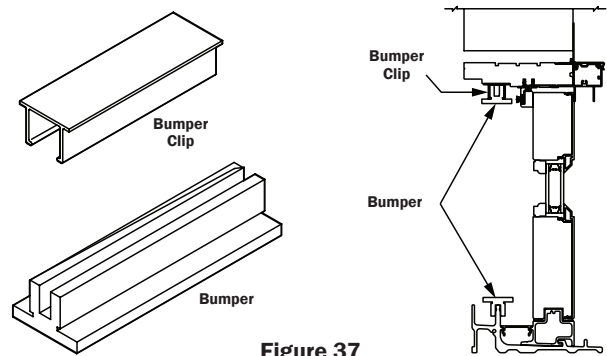

Figure 37
38. Attach one of the supplied bumpers to the bumper clip located on the head jamb on the stationary panel side of the door. Apply by pressing the bumper up into the installed clip. Place the other bumper over the roller track on the sill (Fig. 37). Repeat on opposite side if door is an OXXO.